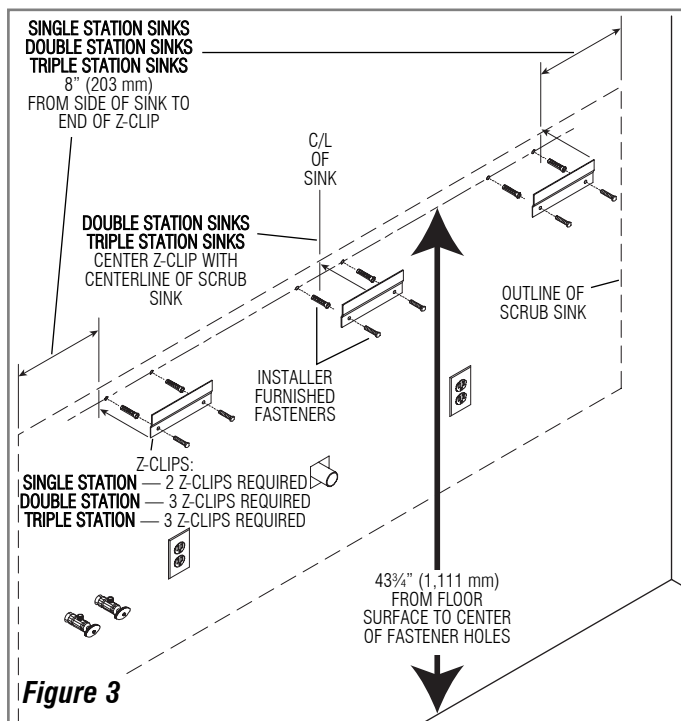

Figure 3
Step 3 — Install “Z” Clips to Wall (Figure 3)
Install “Z” Clips (using installer furnished fasteners) so that mounting holes measure 43 $\frac{3}{4}$ inches (1,111 mm) from floor surface for a standard 41 inch (1,041 mm) sink height. Refer to Figure 3 for complete dimensioning details.